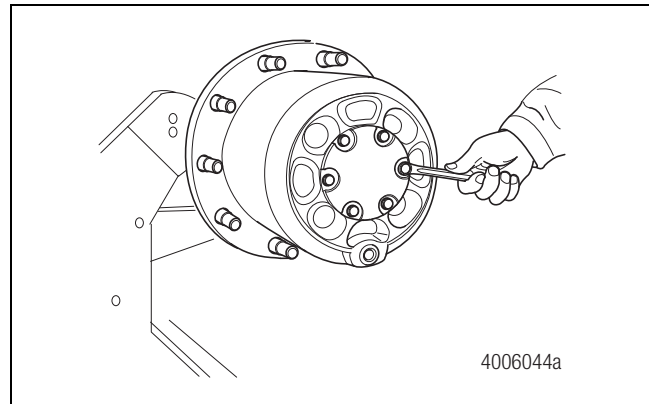

Figure 3.1
4. Use a wrench to remove the hub cover capscrews. Figure 3.1.